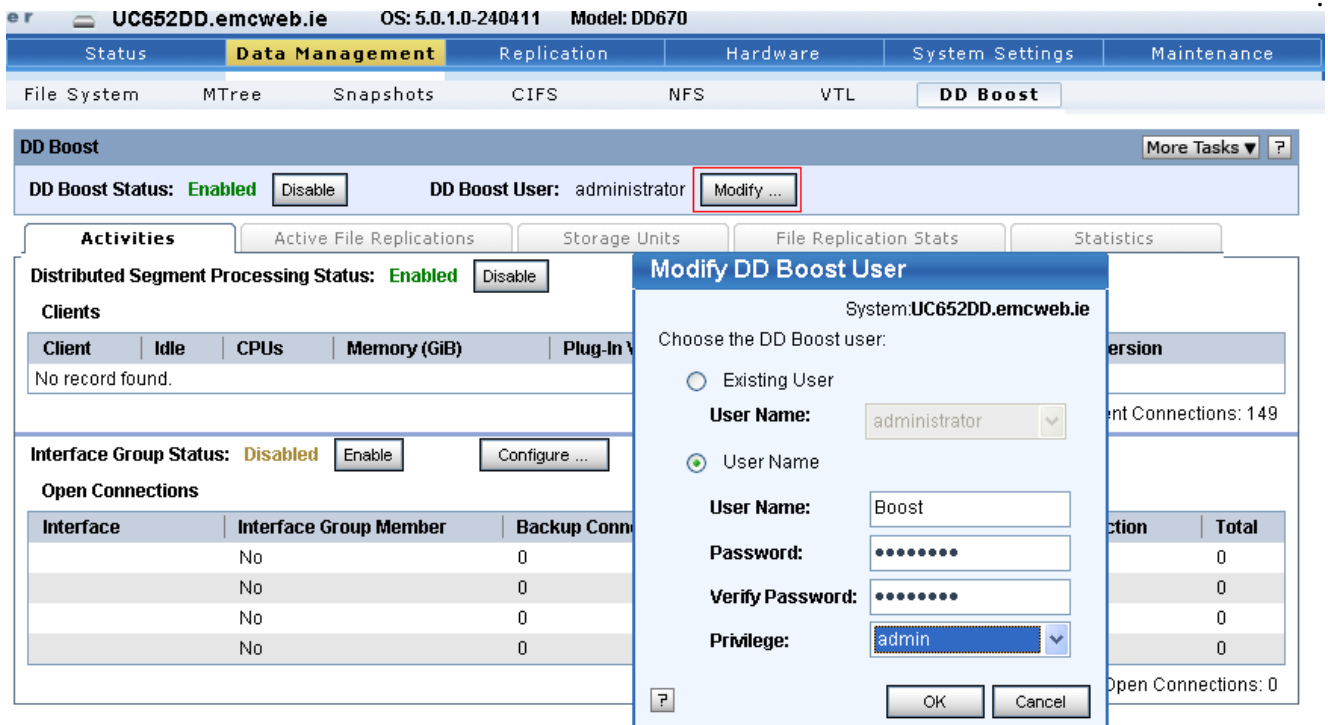

Figure 5. Enter the DD Boost user name and password
2. Create the backup user and specify the DD Boost username as shown in Figure 5.